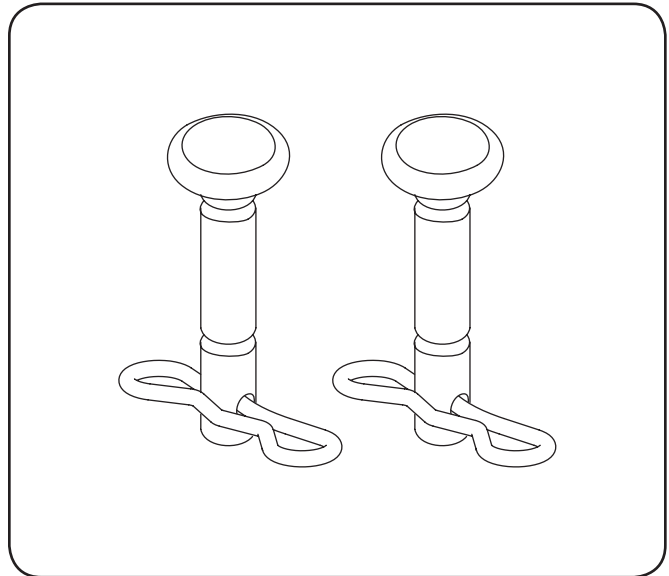

**Figure 3-8**
2. Tighten the wing knob on the upper chute making sure the carriage bolt on the inside of the discharge chute is correctly positioned. Refer to Figure 3-8.
3. To adjust the direction that the snow will be thrown, use the handle on the upper discharge chute to control the direction of the discharged snow. Refer back to Figure 3-8.